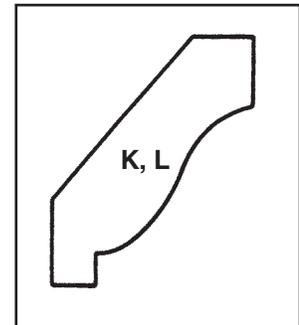

Figure 2
***See Figure 2 for suggested molding profile
5. Mark locations for dowel pins and drill face- and door-frame parts (F), (G), (H), (I), (M), (N), (P) and (Q). Use two dowel pins per joint.
8. Attach drawer guide mounting blocks (W) and spacer blocks (X) to inside of cabinet sides (A). Drawer guide mounting blocks (W) must be flush with opening for drawer. Refer to Isometric.
9. Attach back (J) to unit using 3/4" wood screws. Refer to Isometric.
10. Cut molding (K) and (L) to fit and attach to top of unit using glue and 1 1/4" finish nails. Refer to Figure 2 and Isometric.